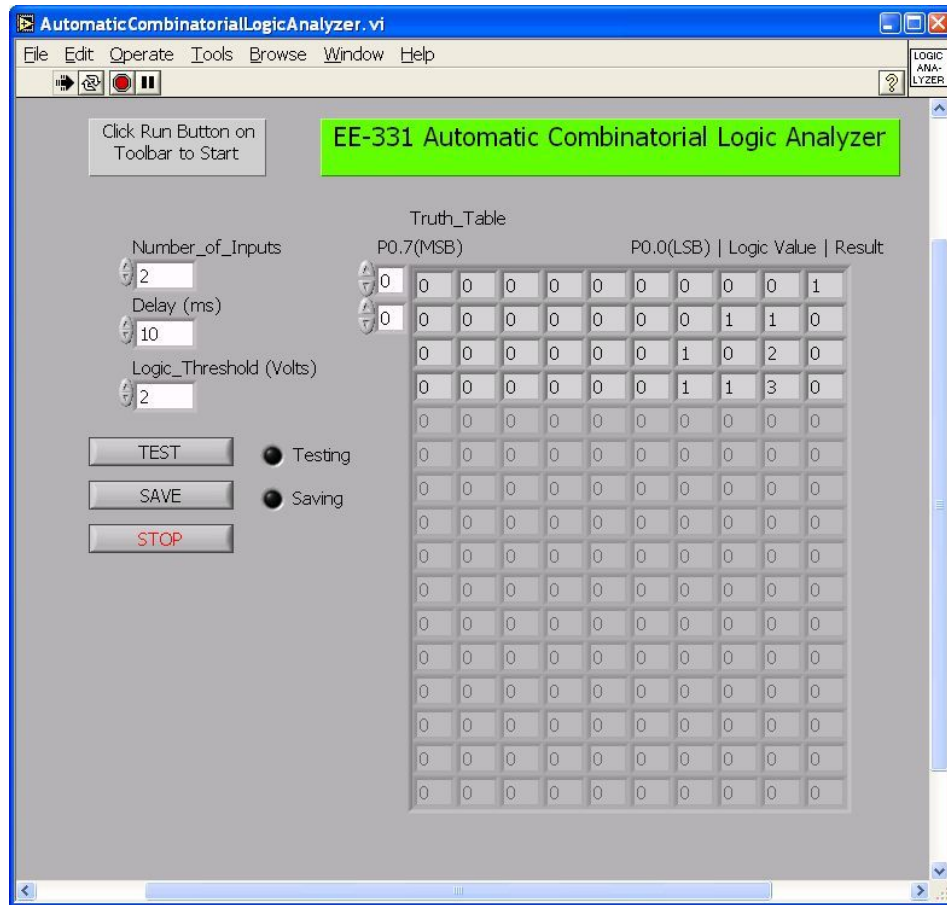

Figure E5.3a
- Set-Up** Launch LabVIEW 7.1, if it is not already running, and open the AutomaticCombinatorialLogicAnalyzer.vi. The front panel should appear as shown in Fig. E5.3a below.
This instrument performs the same tests as the manual logic analyzer of Procedure 2, but it runs through all of the possible digital test patterns automatically and records the results in its own Truth_Table which is displayed on the front panel. The Number_of_Inputs (N) is set to be 1 to 8, from which all 2^N possible logic patterns will be tested. The Delay (ms) is the amount of time that the instruments waits between sending a new digital test pattern and reading the analog input from the circuit under test (CKTUT) output. Logic_Threshold (Volts) is again the voltage level which determines whether the analog input will be interpreted as a logic “0” or “1”. The Truth_Table shown in Fig. E5.3a has 10 columns. The left-most eight columns show the individual bit states of the test pattern and the ninth column
Measurement-3a Click the run button on the toolbar to start the logic analyzer. Enter 2 for the Number_of_Inputs, a Delay of 10 ms, and a Logic_Threshold of 2.0 Volts. Click the TEST button, and the VI should return with the Truth_Table shown in Fig. E5.3a. You can record this Truth_Table by next clicking on the SAVE button. This will open a window which will allow you to specify the filename and location of an Excel spreadsheet file. The spreadsheet file will be filled with a truthtable identical to that shown on the front panel of the VI.